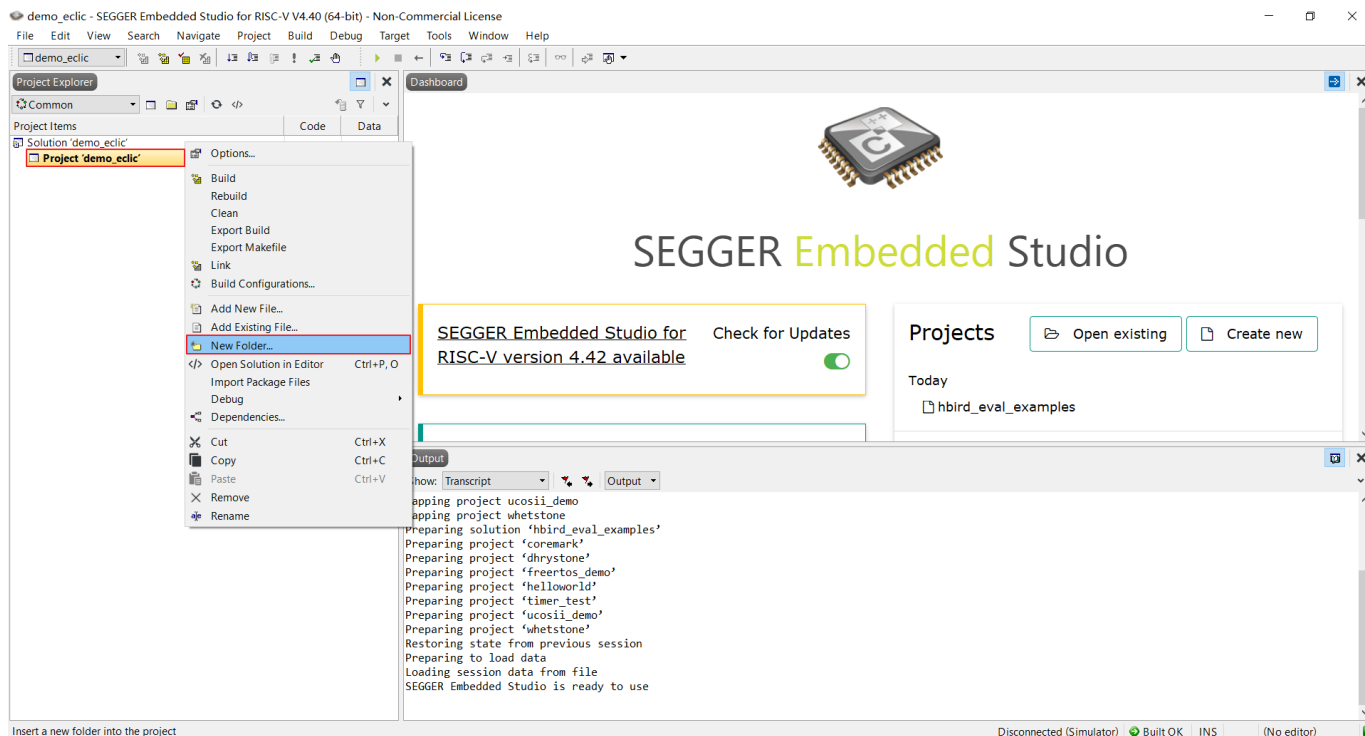

Figure 2-10 Add Folder to the Project
- Right click the new project created in the previous section to open the right-click menu, and select “New Folder”, as shown in Figure 2-10.